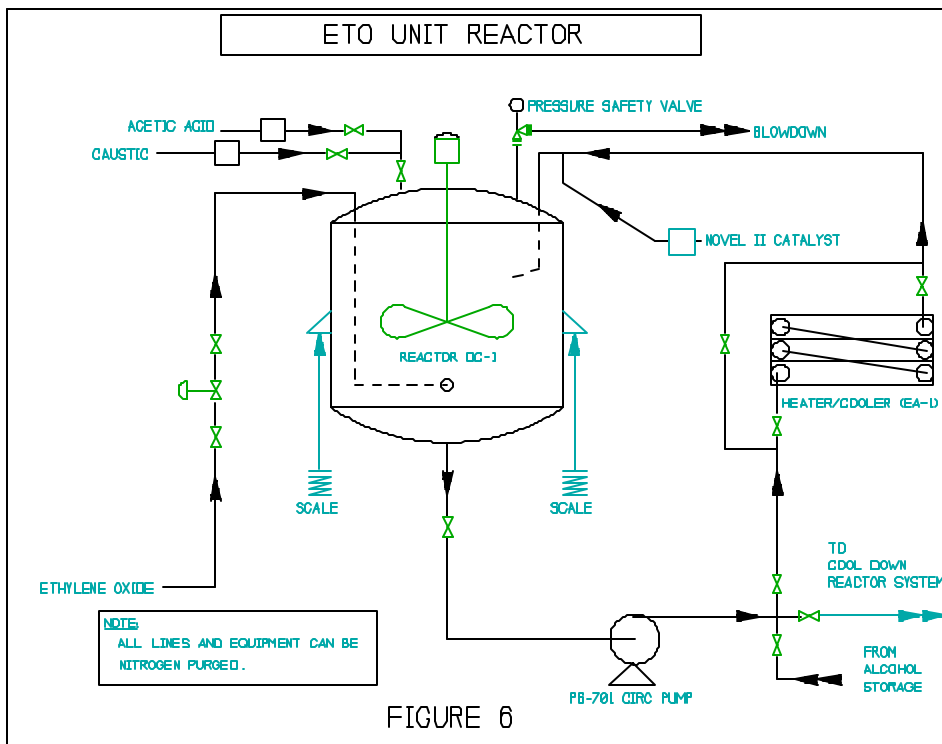

FIGURE 6
4.2 EQUIPMENT DESCRIPTIONS that follow describe basic flow patterns and dimensional data of the Reactor system. The nitrogen system is not shown on drawing (Figure 6) for clarity. Nitrogen purge, however, is readily available to all major Reactor lines and equipment systems.